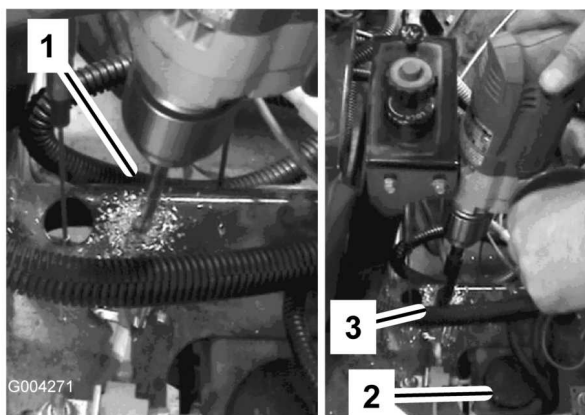

Figure 17
3. Pilot drill smaller holes at the location marked, gradually increasing the hole size and then finish with a $3/4$ inch drill bit (Figure 17).